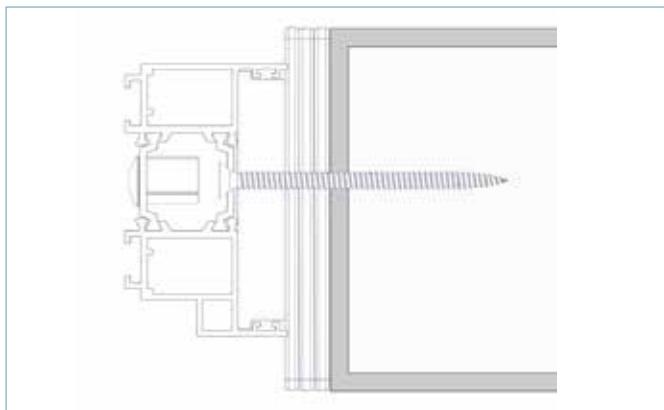

FIG 5C
▶ **5.4.** Align the bottom of the jambs with the end of the bottom track. Using frame packers between the jamb packers and the wall, level out the jambs in all directions and fix into position with your preferred fixings as shown in FIG 5C.